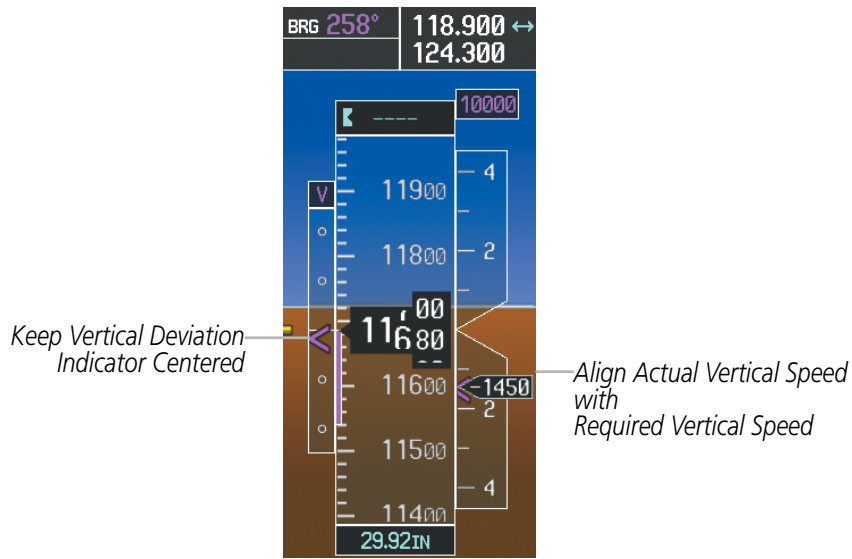

Figure 5-141 VDI & RVSI Showing Correctly Established Descent
- 16) Upon reaching TOD, a descent vertical speed is established by placing the VSI pointer in line with the RVSI as shown in Figure 5-141.